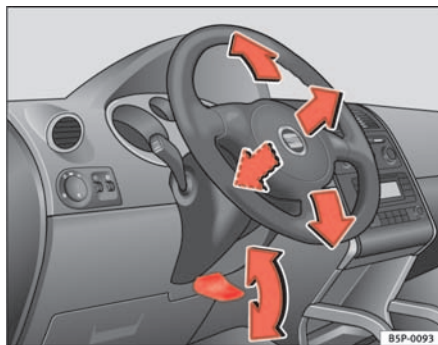

Fig. 128 Adjusting the steering wheel position
- Push the lever under the steering column $\Rightarrow$ fig. 128 down $\Rightarrow$ ⚠.